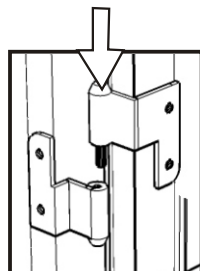

Figure 2
Attach the Doors (O) and (P) to the side panels and middle panel slide the door lift hinges into the side panel and middle panel lift hinges. (See figure 2)
Slide Q5 into the grooves in Q3 and Q4. Be sure to push the Q5 all the way forward so it meets the Q1. (See figure 2)